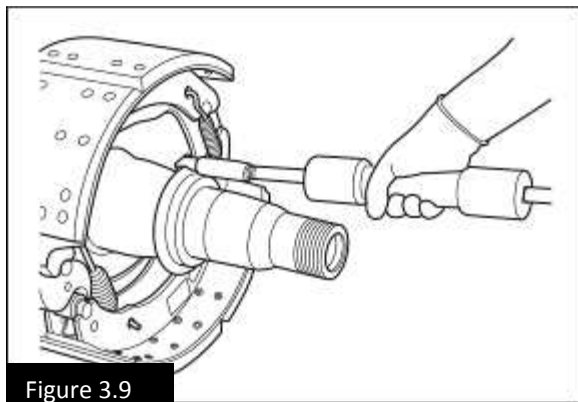

Figure 3.9
12. An alternate method is to use a slide hammer with a hook on the end of the tool. Figure 3.9.